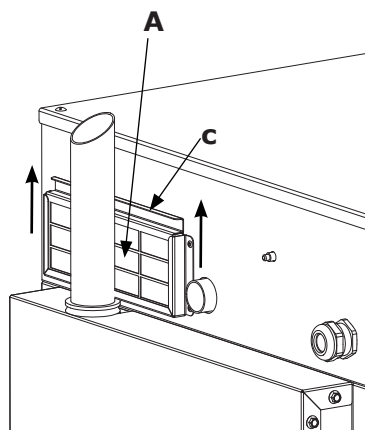

fig. 28
The filter is in the rear part of the oven (**ref. A fig. 28**).
1. Grip the tab on the filter (**ref. c - fig. 28**) and lift it, sliding the filter upwards from its housing.